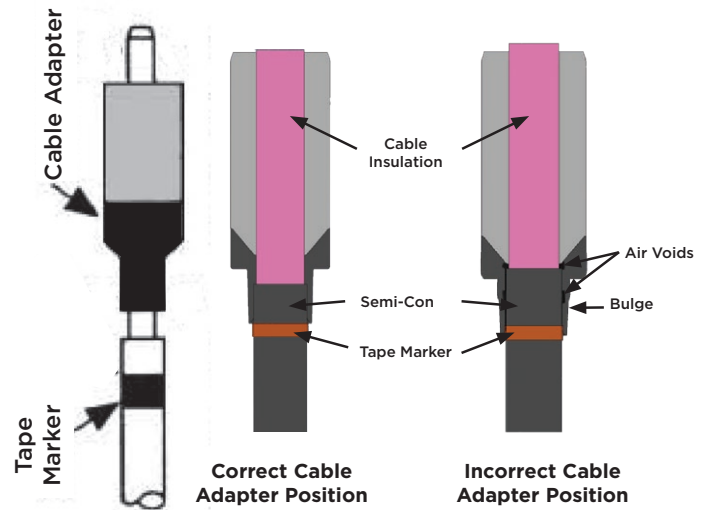

Fig. 6 - Install Cable Adapter
- B. Slide cable adapter onto cable until it is flush with the tape marker. (See Figure 6.)